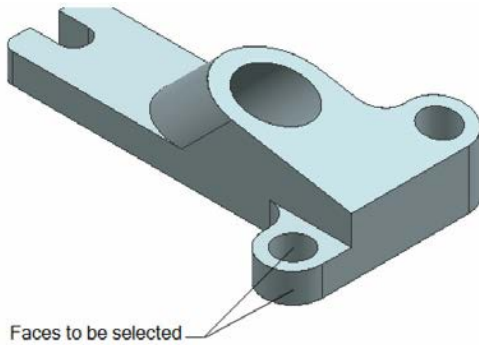

Figure 13-112 Faces to be selected
- k. Modify the distance between two vertical holes using the **Move Face** tool, refer to Figure 13-112.
3. Select the circular face of the hole and the concentric semi-circular face of the base plate, refer to Figure 13-112.